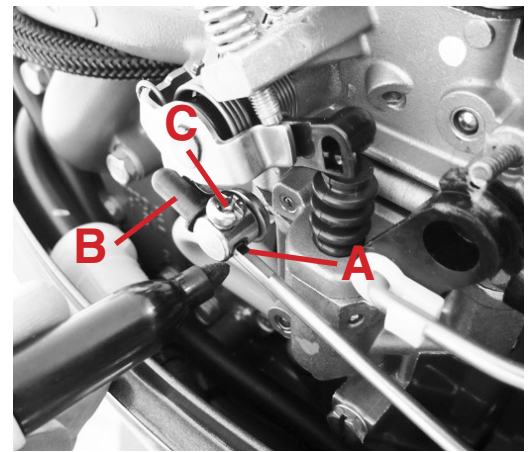

Fig. 1
Step 2: See Fig. 1
- A: Use ink marker to mark Yamaha throttle rod position at brass carburetor (carb) fitting (A). This mark is used if you return motor to stock configuration.